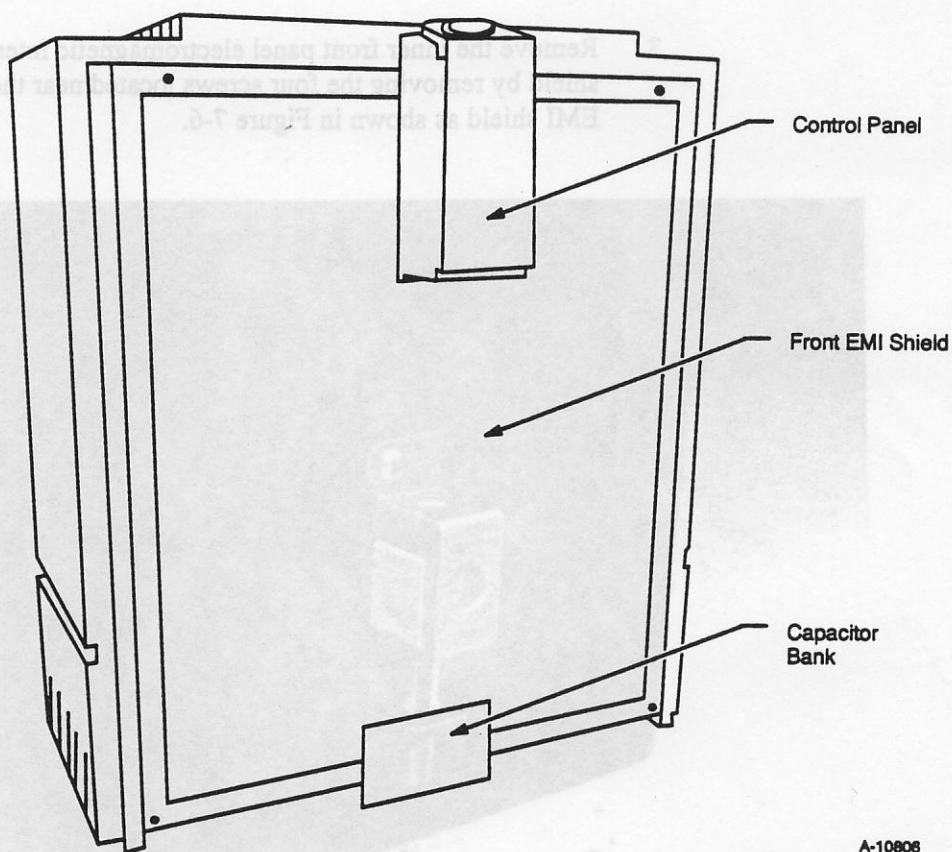

Figure 7-6. Inner Front Panel EMI Shield
3. Remove the inner front panel electromagnetic interference (EMI) shield by removing the four screws located near the middle of the EMI shield as shown in Figure 7-6.
1. Replace the inner front panel EMI shield (Figure 7-6) by placing the panel correctly back into the frame and securing the four panel screws.